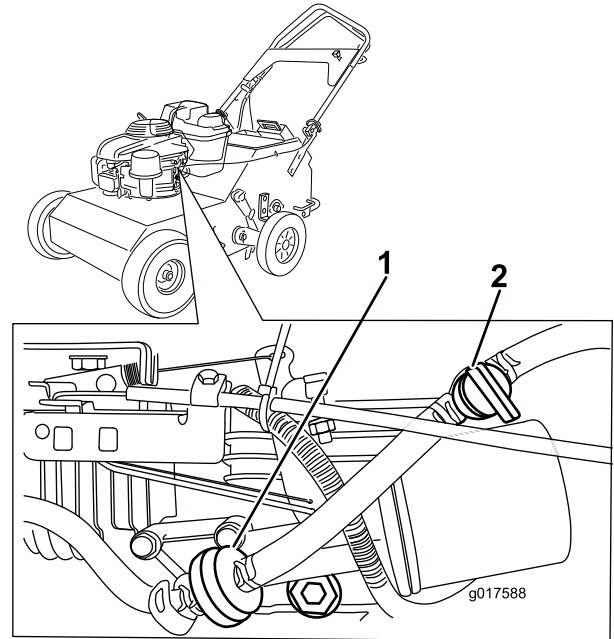

Figure 25
3. Close the fuel valve (Figure 25).
4. Clamp off the fuel line on either side of the fuel filter (Figure 25) to prevent fuel from leaking out when you remove the filter.
5. Squeeze the ends of the hose clamps together and slide them away from the filter (Figure 25).
7. Install a new filter and move the hose clamps close to the filter (Figure 25).